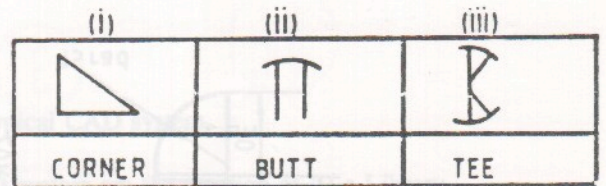

FIG. 3
- Fig. 3 shows a type of joint and its weld symbol. By means of neat freehand sketches show pictorial illustrations of each joint.